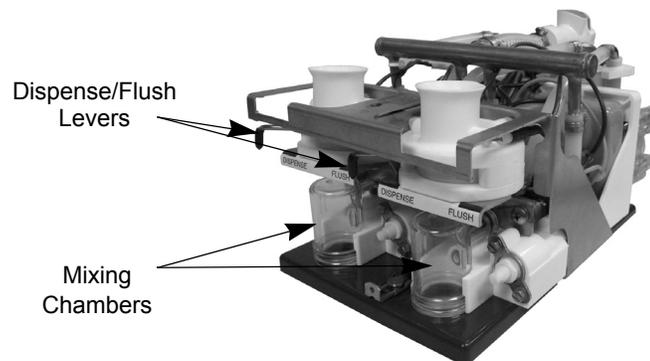

Figure 7. Platform Assembly with Dispense/Flush Levers
1. Move all of the Dispense/Flush levers (located on the platform assembly in the refrigerated cabinet) to the *Flush* position. Place an empty cup on the drip tray below each dispense nozzle (Figure 7).